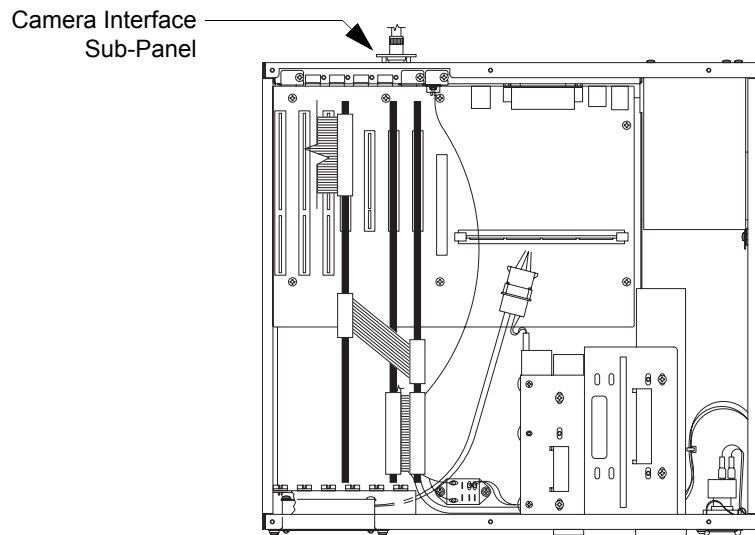

Figure 9-21 Location of the Camera Interface Sub-Panel
4. Note the orientation of all cables prior to their removal; see Figure 9-21.